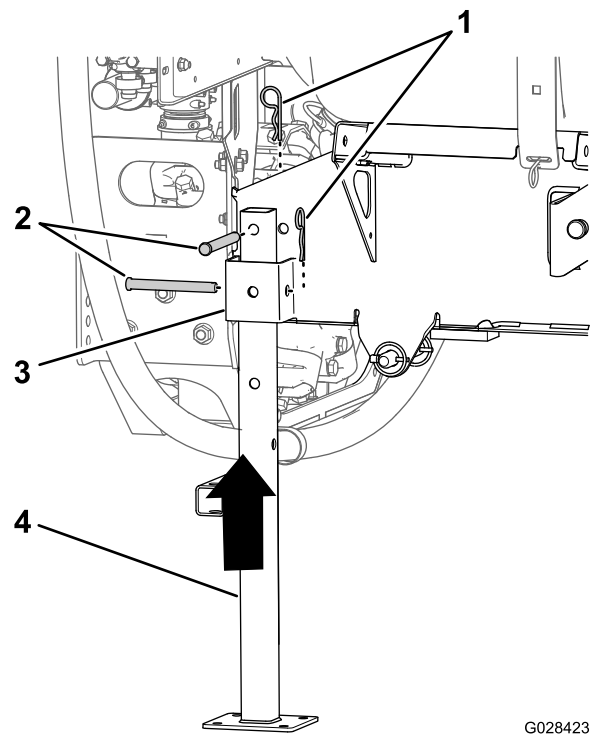

Figure 136
5. Align the rear jack stand with the rear jack-stand receiver (Figure 136).
6. Align the hole in the top of the jack stand with the hole in the frame of the tank skid (Figure 136)
7. Secure the jack stand to the receiver and the frame with 2 clevis pins (1/2 x 4-1/2 inches) and 2 hairpins (5/32 x 2-5/8 inches) as shown in Figure 136.